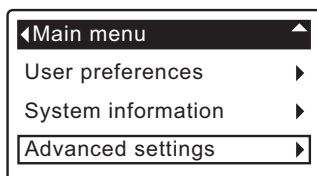

FIG. 77
3. Press the DOWN ▼ button to scroll through the menu options until **Advanced settings** is highlighted (See Figure 77).